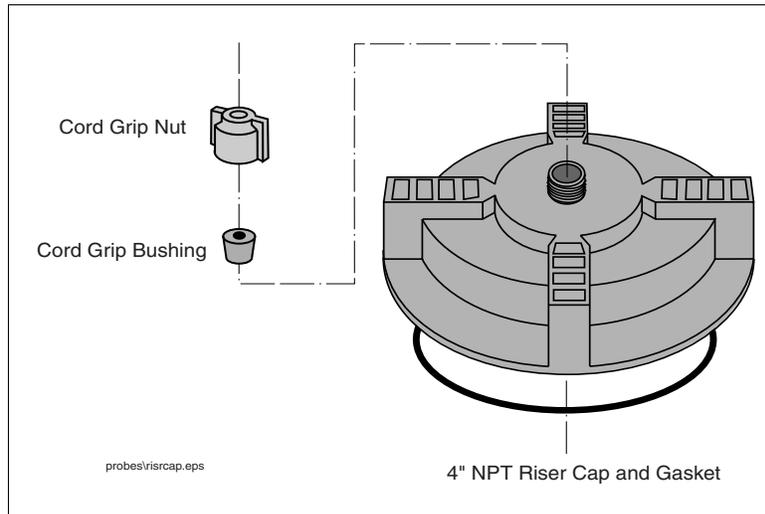

Figure 6. Cap and Cord Grip Kit
This Riser Cap kit (Table 4) contains a non-metallic cap which screws onto the 4" NPT riser (Figure 6). The cap comes drilled and tapped with a cord grip.
1. If you are using the one piece cap (see Figure 6 on page 9), push the end of the probe cable through the cord grip bushing and nut on the cap, leaving a minimal amount of slack between the probe and cap. Screw the cap onto the riser by hand until the gasket first contacts the pipe. Then lightly tap the cap with a hammer to tighten it an additional 3/4 turn. Go to Step 3.
1. If you are using the one piece cap (see Figure 6 on page 9), push the end of the probe cable through the cap and cord grip bushing, leaving a minimal amount of slack between the probe and cap. Discard the cord grip nut and attach the Adaptor Nut from the AST kit to the cap (see Figure 3 on page 6). Tighten the Adaptor Nut until the cable is held firmly. Go to Step 3.